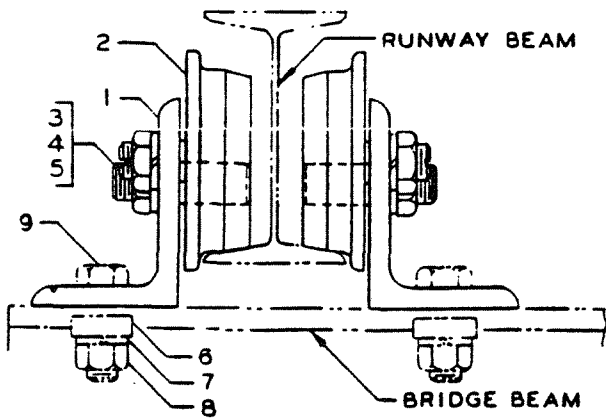

FIGURE 1
7. Using hardware recommended in Table 2, assemble as shown in Figure 1.